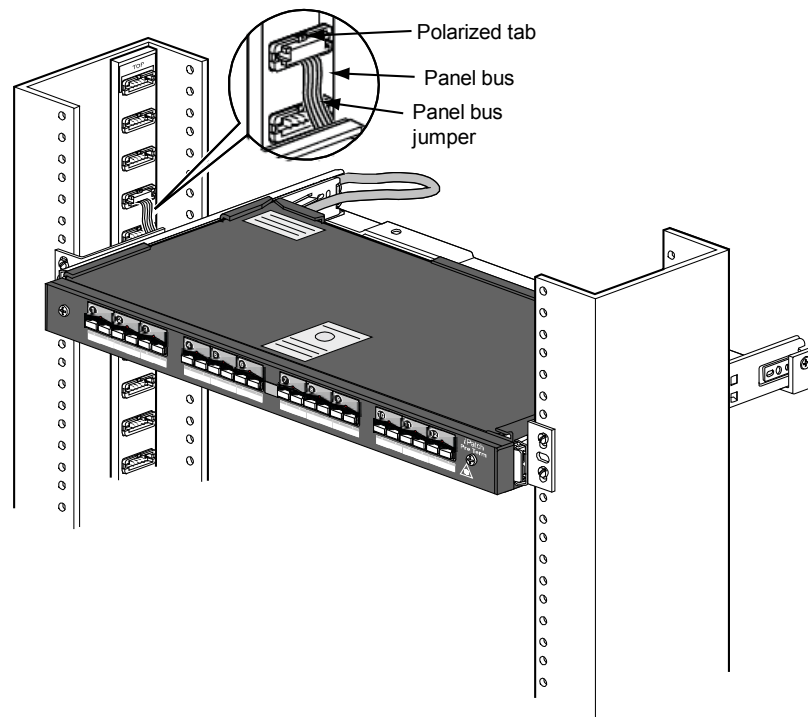

Figure 3. Connect the Panel Bus Jumper to the Panel Bus
2. Connect the panel bus jumper to the nearest connector on the panel bus as shown in Figure 3.